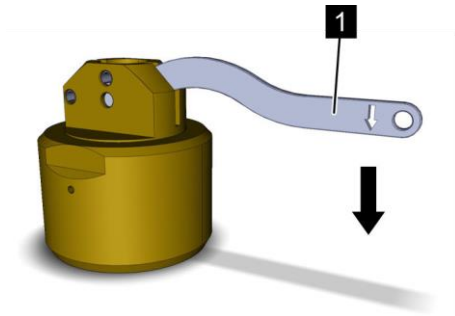

Fig. 167: Hand lever down
3. ➤ Press the hand lever (Fig. 167/1) downward to the stop (Fig. 167/arrow).